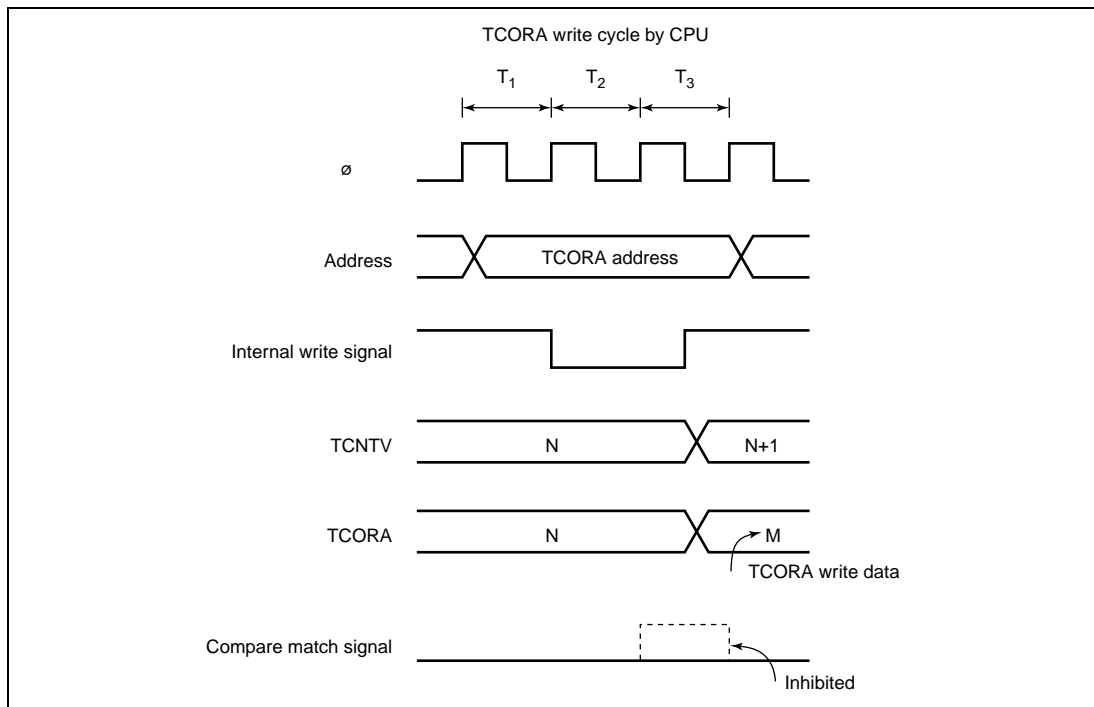

Figure 11.12 Contention between TCORA Write and Compare Match
2. If a compare match is generated in the T3 state of a TCORA or TCORB write cycle, the write to TCORA or TCORB takes precedence and the compare match signal is inhibited. Figure 11.12 shows the timing.